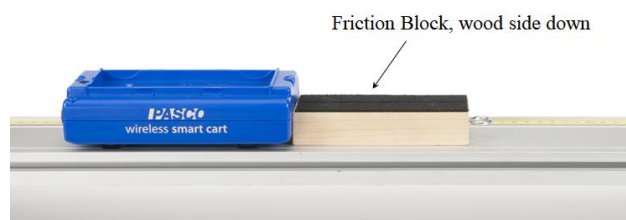

Figure 3: Smart Cart with Friction Block
2. Put the Friction Block on the track with the wood side down. As shown in Figure 3, place the Smart Cart on the track with the force sensor end (without hook) up against the Friction Block.